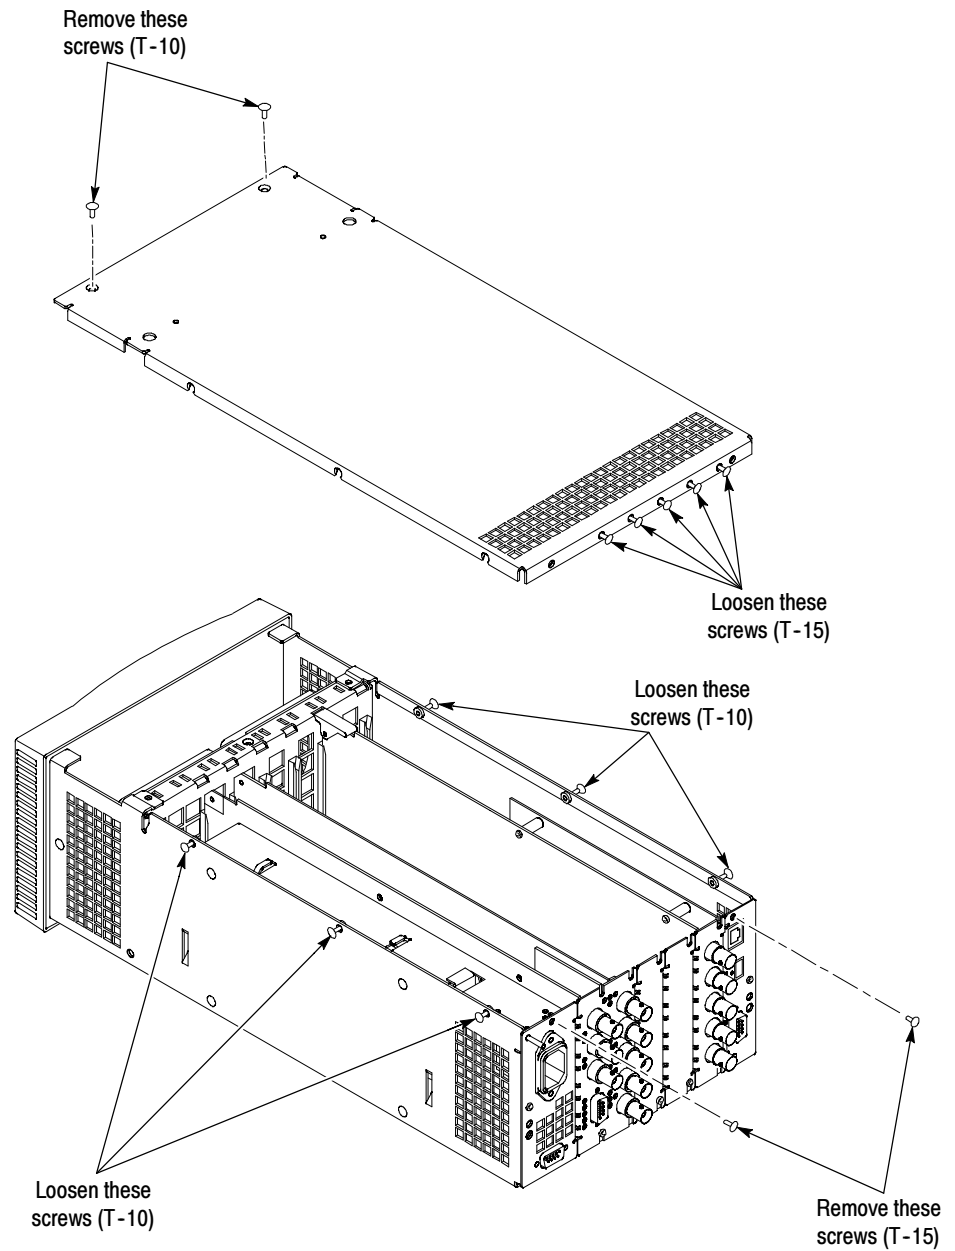
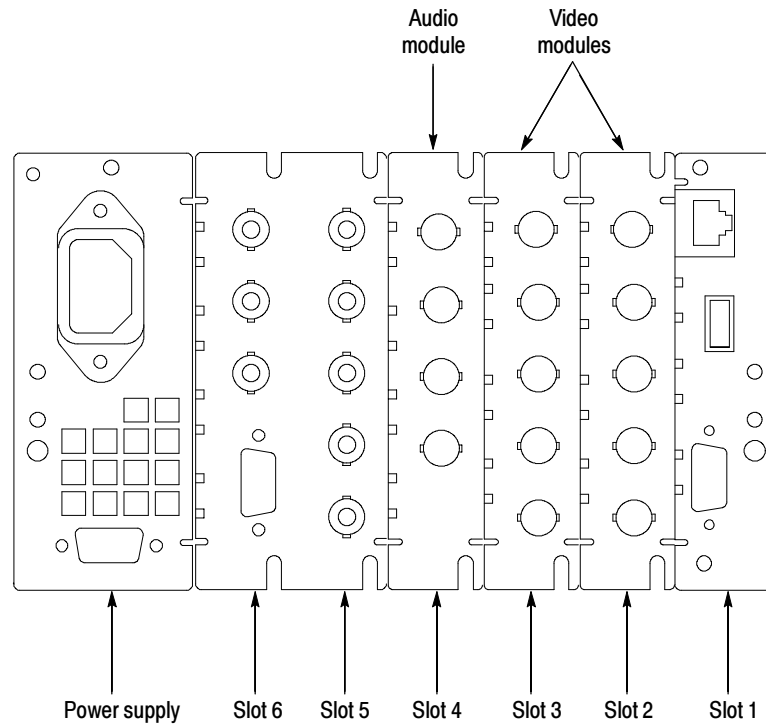

Figure 1: WFM700 chassis, showing screws to loosen and remove
Figure 2: WFM700 rear panel showing slot numbers and locations of the video and audio input modules
Figure 2 on page 6 shows the slot-number assignments for the WFM700.
- a. Loosen three attaching screws (T-10) along the left side and three screws along the right side of the chassis cover (see Figure 1). Loosen the screws sufficiently to free the cutouts in the cover (about 3 turns); you do not need to remove the screws from the side of the chassis.
- b. Remove two screws (T-10) from the front of the chassis cover (see Figure 1). Save the screws for reinstallation.
- c. Loosen the attaching rear-panel screws (T-15) at the top of the module rear panels in slots 2 through 6 (see Figure 1 for screw locations and Figure 2 for slot numbering). Loosen the screws sufficiently to free the cutouts in the cover (about 3 turns). It is okay to remove the screws, but be sure to save them for reassembly.
- d. Remove a screw (T-15) from slot 1 and from the power supply (see Figure 1 for screw locations and Figure 2 for slot numbers).
CAUTION. To prevent a module malfunction, be sure to install the video or audio input module only in their assigned slots as shown in Figure 2 and described in Module Slot Assignments on page 3. If you install the input module in an incorrect slot, the module will not operate properly and will fail boot up diagnostics.